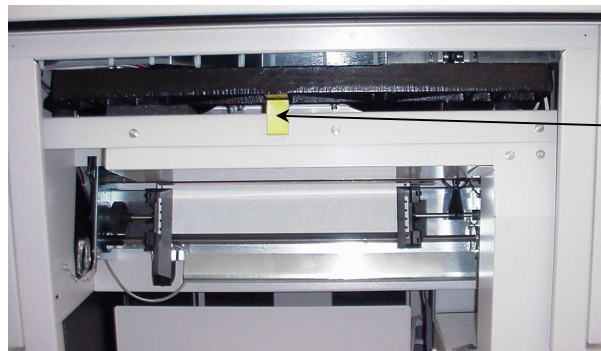

Figure 2-9
2. Open the front cabinet door. A yellow plastic shipping bracket along with a metal right angle piece is located between the print mechanism and the cabinet frame. They are held in place with a bolt starting from the underside of the cabinet frame. Remove the bolt and shipping bracket. See Figure 2-9.